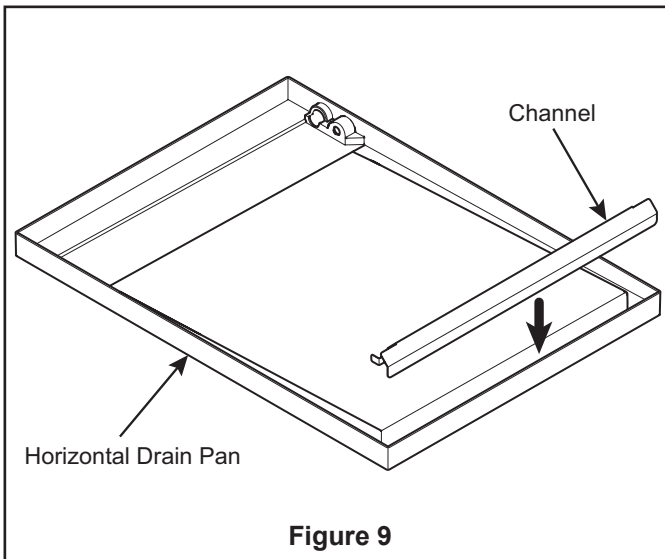

Figure 9
- a. Place Channel for Splash Guard into Horizontal Drain Pan as shown in Figure 9.